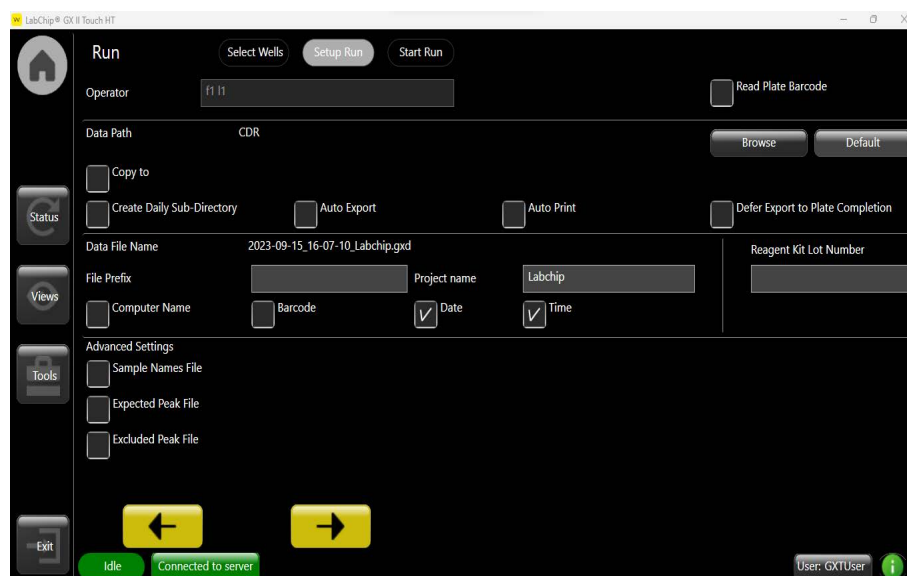

Figure 12. Run setup screen.
- 3 In the *Setup Run* tab, select the operator name, the option to read barcode, the destination of the file, the inclusion of sample names, expected peaks, and excluded peaks and the filename convention. Select *Auto Export* to export results tables automatically (Figure 12). Touch the *green arrow* button.